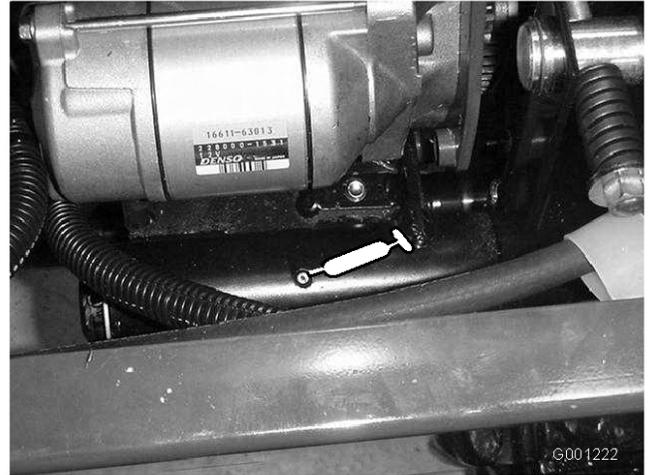

Figure 39
- PTO tension pivot (Figure 39)
- Rear PTO bearing (Figure 39)